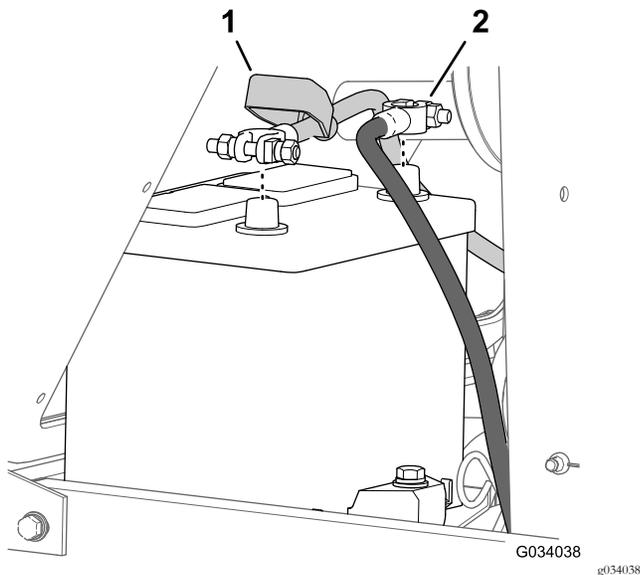

Figure 53
2. Disconnect the negative (-) cable from the battery post (Figure 53).
3. Slide the insulator cover away from the battery-cable clamp (Figure 53).
4. Disconnect the positive (+) cable from the battery post (Figure 53).
7. Connect the cables, positive (+) cable to the positive-battery post (Figure 53).
8. Connect the negative (-) cable to the negative-battery post (Figure 53).